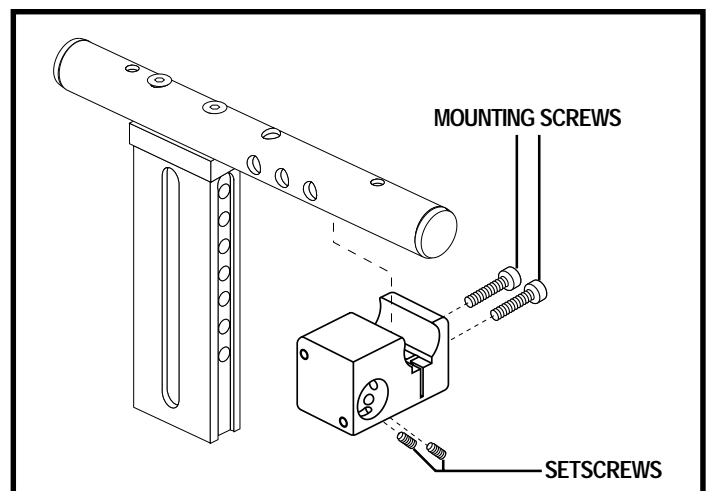

Figure 13. Controller Mounting Block
6. Loosen the setscrews on the controller mount. See figure 13.
You can move the controller in toward or out away from the armrest, or change the position of the controller for either left-hand or right-hand use. See figure 13.
4. Loosen the mounting screws in the controller mounting block. See figure 13.